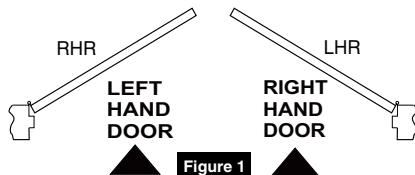

Figure 1
- Check hand of door. (Figure 1)